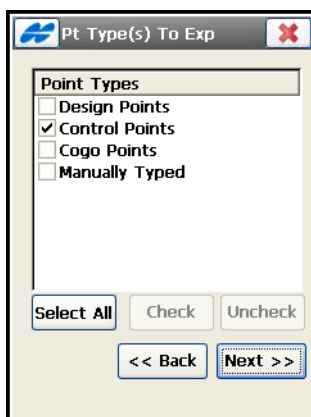

Figure 5-43. Points Types To Export
1. Check mark the *Select Additional Point Types* box to enable storing Design, Control, COGO and/or Manually entered points during export of raw data (Figure 5-43).